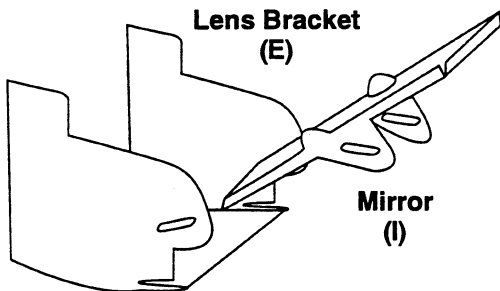

Figure 5-3. Removing the Mirror
5. Spread the sides of lens bracket (E) out and remove the mirror assembly (I). Figure 5-3.